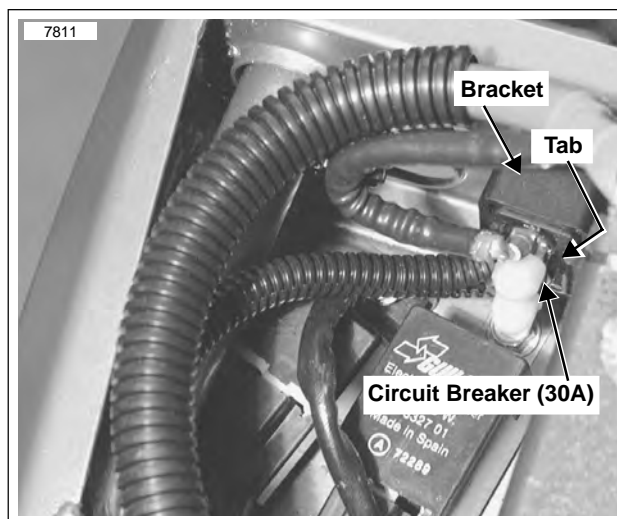

Figure 7-36. Circuit Breaker
See Figure 7-36. Attached to the frame above the battery, the main circuit breaker is between the ignition key switch and the battery. Remove the main circuit breaker as follows:
4. See Figure 7-36. Remove circuit breaker from circuit breaker bracket by carefully prying tab, located on left side, open and sliding circuit breaker out. NOTE: Bank Angle Sensor will require reinstallation if bracket is removed. See 7.5 BANK ANGLE SENSOR.